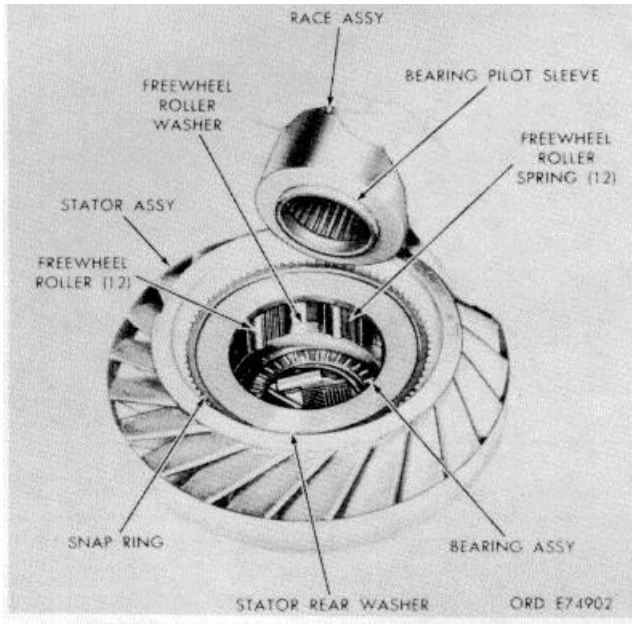
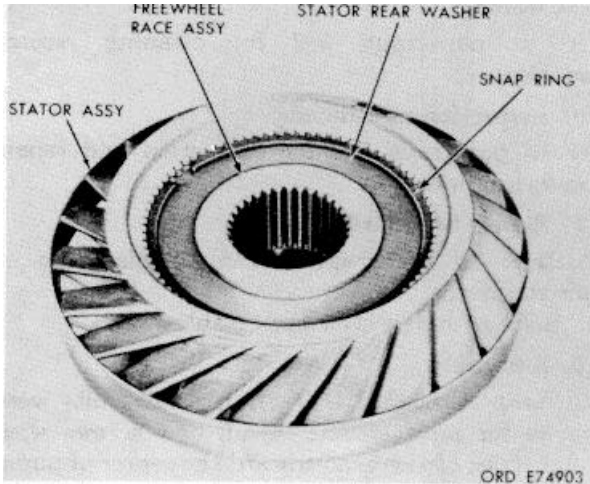

Figure 7-3. Removing freewheel race assembly.
Figure 7-4. Torque converter stator components, assembled
(1) Remove freewheel roller race assembly (24) from stator assembly (19). Refer to figure 7-3
a. *Pump Assembly (FO-3).* If screws (95) were removed for replacement; install new screws with the flat sides of the head toward the center of pump (97). Press each screw in until it bottoms on the pump (or balance weight when used).
(1) If freewheel cam (27) was removed from stator assembly (19) for replacement of either part, install the cam into the stator assembly as marked when disassembled. As an aid, refer to figure 7-3, a rear view of the stator assembly, and note that the freewheel roller and spring pockets and deeper at the clockwise end (spring end) of the pocket. Also note that the rear of the stator has a counterbore new its internal splines.
(2) Place stator assembly (19, FO-3), front end up, and install freewheel roller washer (21), stator thrust washer (20), larger inside diameter end first, and retain it with retaining ring (18).
(3) Turn stator assembly (19) over, rear (counterbored) end up, and install bearing race thrust washer (22).
(4) Install the bearing assembly, roller side up, into the stator assembly (fig. 7-3).
(5) Install the freewheel race assembly, sleeve end first, into the stator assembly (fig. 7-3). Be sure that the sleeve extends through the bearing assembly and its race.
(6) Install 12 freewheel rollers and 12 freewheel roller springs. Springs go in the clockwise (deeper) end of each pocket.
(7) Install freewheel roller thrust washer (28 FO-3), stator cam roller washer (29), smaller outside diameter first, and retain it with retaining ring (30). Refer to figure 7-4.